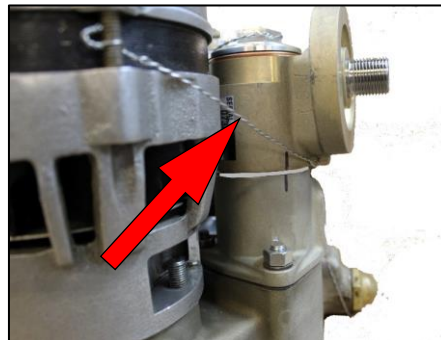

Figure 13
- b. Safety-wire the sleeve to a suitable location on the engine. Wrap the safety-wire around the sleeve below the filter mount flange and secure the wire to the engine in such a manner that the sleeve cannot rotate counterclockwise (loosening), see Figure 13.